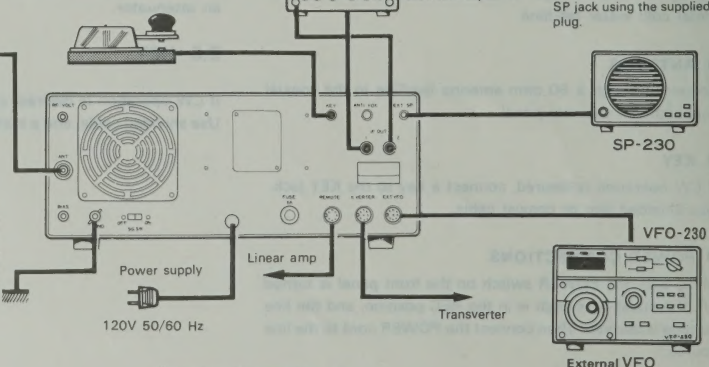

Fig. 2-1 Connection
2.3 CABLING (See Figure 2-1.)
Attach the microphone connector to a suitable microphone, as shown in Figure 2-1. Be sure the microphone PTT switch is separate from the microphone circuit, as shown in Figure 2-3.
Standard microphone sensitivity is within the range of -50 dB to -60 dB. If a microphone having a higher sensitivity is used, the ALC and compressor circuits will not function properly. In this case, insert in the mike line an attenuator as shown in Fig. 2-1. A typical MIC gain control setting is 12 o'clock. If you must run this control at 9 o'clock or less, use an attenuator.